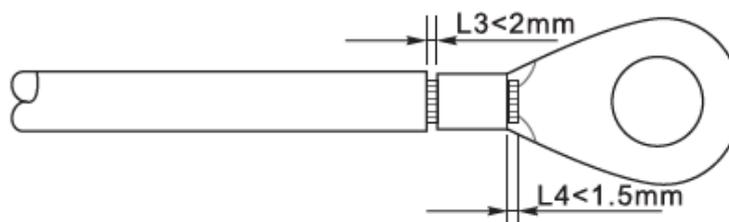

Figure 16 - Preparing the ground cable (2)
1. Insert the exposed wires in the OT terminal and crimp them using a crimping tool, as shown in Figure 16.